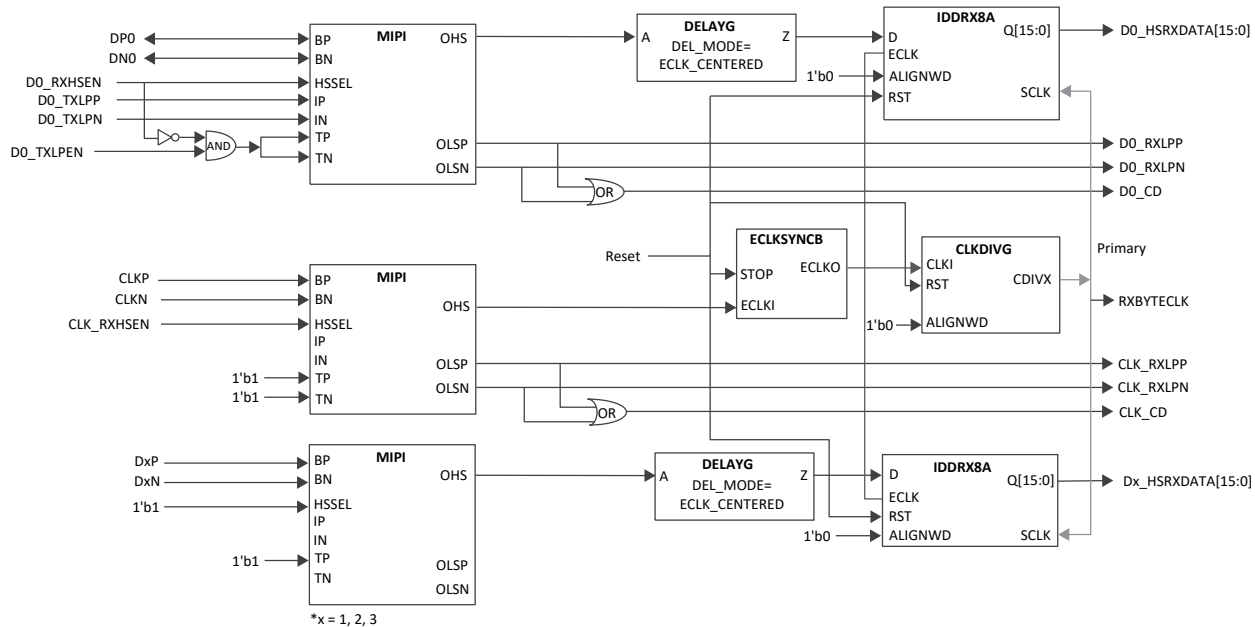

Figure 5.14. MIPI DSI Receive Interface with Soft D-PHY Module
- The HSSEL input of the MIPI buffer is used to switch between the High-Speed and Low-Power modes. The transitions between High-Speed (HS) and Low-Power (LP).
- The OLSP and OLSN outputs of MIPI are active and transmitting data on the RXLPP and RXLPN ports to the fabric as shown in Figure 5.14. The OLSP and OLSN can also be inputs, depending on the state of RXHSEN and TXLPEN, which control TP/TN tristate inputs. The OLSP and OLSN states are also used to generate the D0_CD or CLK_CD signals, which can be monitored by the fabric for contention detection.
Note: Figure 5.14 shows the X8 gearing interface. X4 is similar but uses the IDDRX4C primitive.